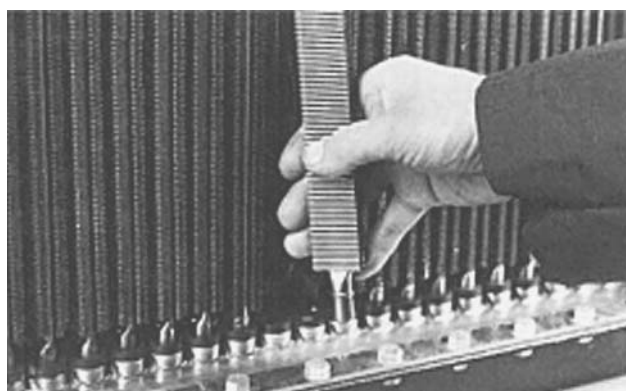

FIGURE 3-8. ANGLING TUBE DURING REMOVAL
3. Pull the tube from the top seal while simultaneously twisting the tube. Angle the tube only far enough to clear the radiator. Refer to Figure 3-8. Removing the tube at an excessive angle may cause damage to the tube.